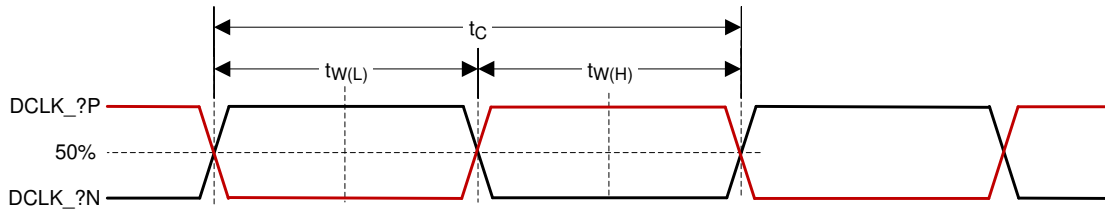

图 6-13. HSSI CLK Characteristics
- (6) See Figure 6-13 for pulse duration high and low and cycle time for HSSI.